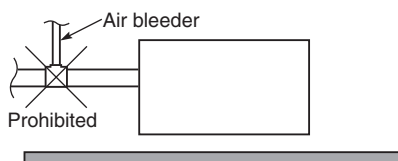

Fig. 2-115
- Do not install an air bleeder as this may cause water to spray from the drain pipe outlet. (Fig. 2-115)